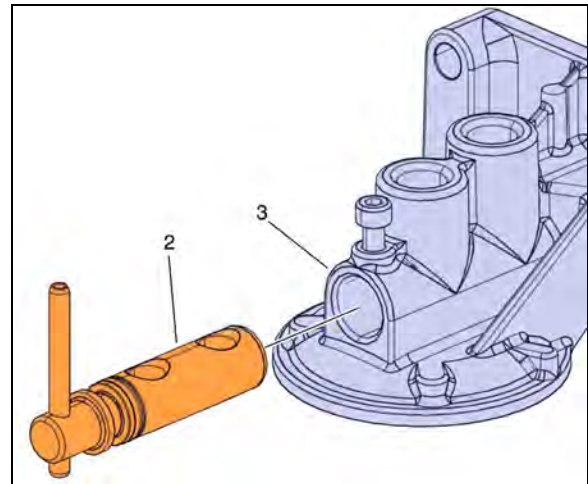

FIGURE 7: SPINDLE
7. Extract the spindle (2) from the coolant filter housing (3) (Figure 7).